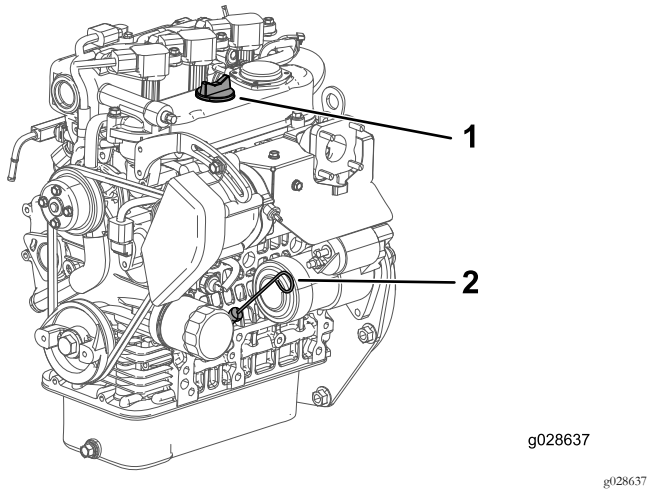

Figure 16
2. Remove the dipstick and wipe it with a clean rag (Figure 16).
6. Install the dipstick firmly in place (Figure 16).
3. Insert the dipstick into the tube and make sure that it is seated fully (Figure 16).
4. Remove dipstick and check the level of the oil (Figure 16).
5. If the oil level is low, remove the filler cap (Figure 16), and add enough oil to raise the level to the Full mark on the dipstick.